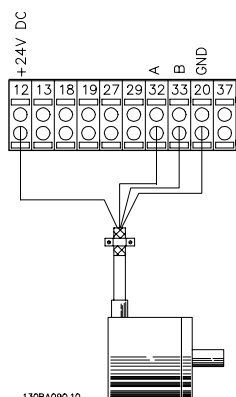

Figure 5.5 Wiring Diagram
1. Verify that the encoder connection is according to *Figure 5.5*: